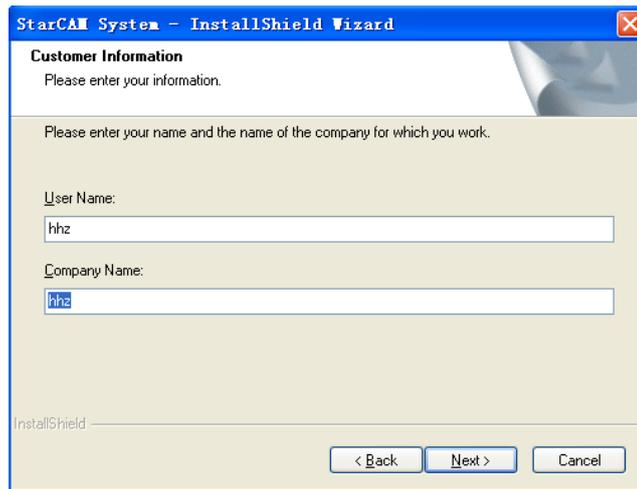

Figure 3
3. After select “I agree the clauses of the license”, click the button “Next”, and enter Figure 3.